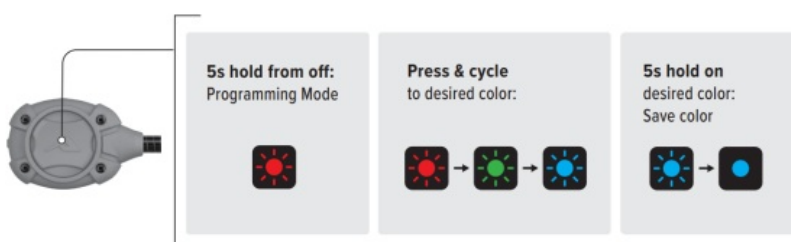

Figure 4 – ARC Rail Installation
- 9 Figure 4 – ARC Rail Installation